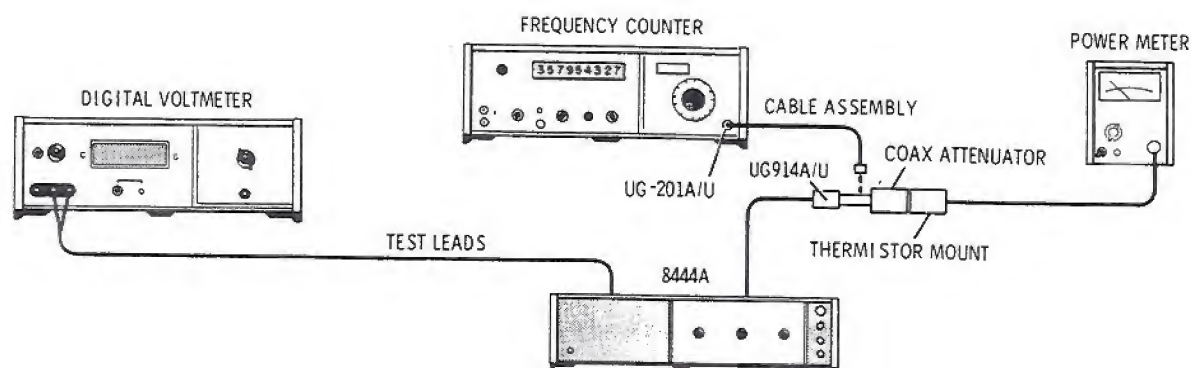

Figure 5-2. 1.55 GHz LO Power Level and Frequency Check and Adjustment Test Setup
4. With test setup as indicated in Figure 5-2, connect Power Meter to Isolator AT3 J2 via 08555-60076 cable, 10 dB attenuator and UG 914A/U adapter.